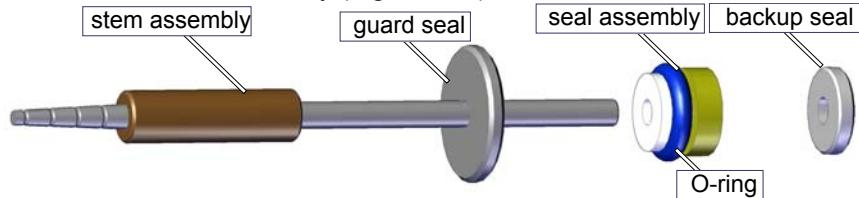

Figure 7-15
9. Place guard seal on stem assembly (Figure 7-15).
10. Apply a light film of Lubriplate on the stem assembly and carefully slide on the seal assembly with the white end toward the guard seal (Figure 7-15).